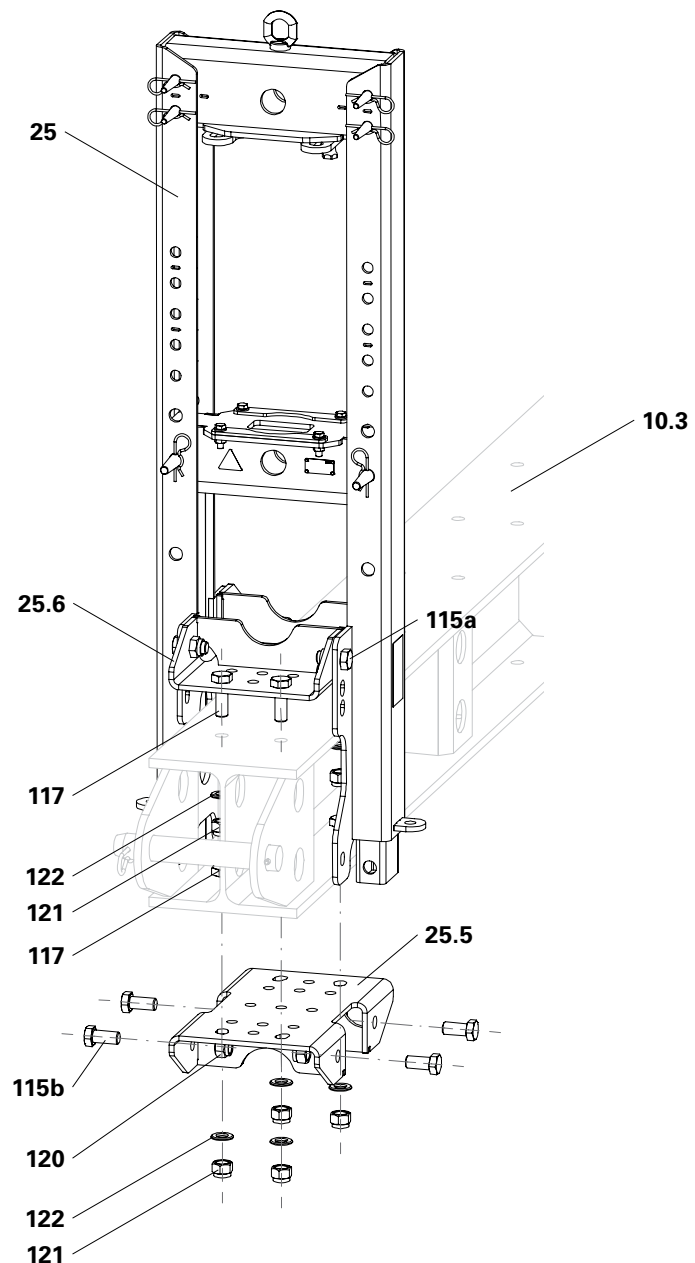

Fig. B4.04
3. Attach the Lift Frame (25) to the crane lifting gear and fly in.
5. Fix the bottom Girder Connection (25.5) in its original position with bolts M24x50 (115b) and nuts M24 (120).
7. Fix the Lift Frame (25) on the Base Beam with bolts M24x70 (117), washers M24 (122) and self-securing nuts M20 (121).
9. Remove crane lifting gear. (Fig. B4.04)